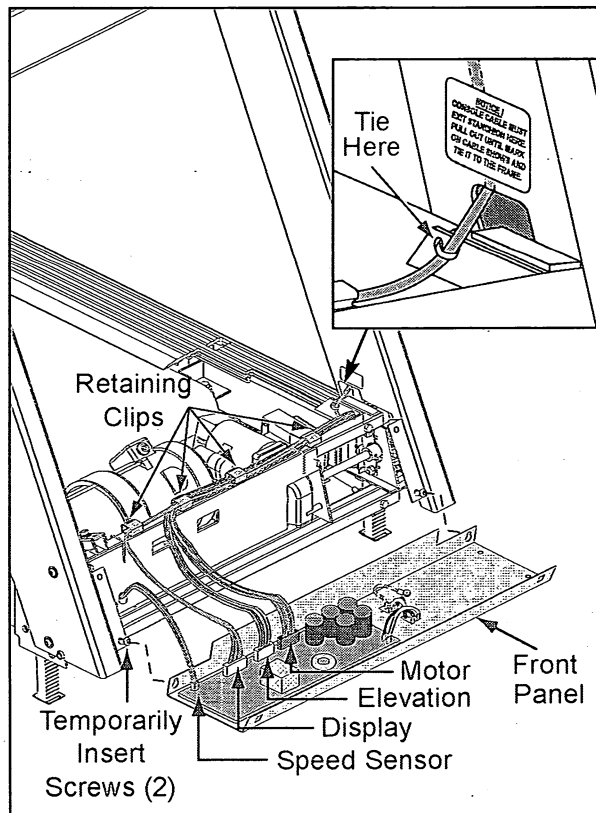

Figure 7
- A. Note that there are four threaded holes on the treadmill's front frame used to fasten the front end panel to the treadmill base. Temporarily insert button head screws in the two bottom threaded screw holes. Screw the screws in approximately halfway. See Figure 7.
- B. Pick up the front panel and hold it parallel to the floor, with the printed circuit board facing up. Temporarily mount the panel by placing it over the two button head screws on the treadmill's front end as referenced in the previous step. Use the screws to support the panel much like a shelf. See Figure 7.
- C. Ensure the black mark on the display cable is visible, and wire tie it to the frame as it exits the upright. See Figure 7.
- D. Pinch the retaining clips (to open them) and route the display cable through each of them across the top of the treadmill. See Figure 7. Close the retaining clips.
- E. Plug all cables into the lower board: (from left to right) the motor/choke connector, the elevation connector, the display cable connector and the speed sensor connector. See Figure 7.
- A. Remove the front panel (with the cable connectors still attached) off the two button head screws. See Figure 7.